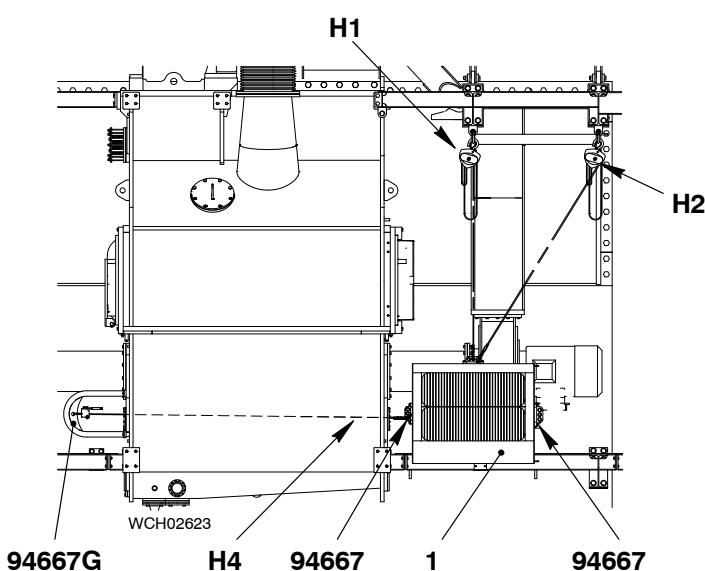

Fig. 11
- 1) Attach the tools (94667) to the top and front of the water separator (1).
- 2) Use the engine room crane and the spur-gearied chain blocks (H1, H2, Fig. 11) to get the water separator in position.
- 4) Operate the manual ratchet (H4) to move the water separator (1) into the receiver a small distance.